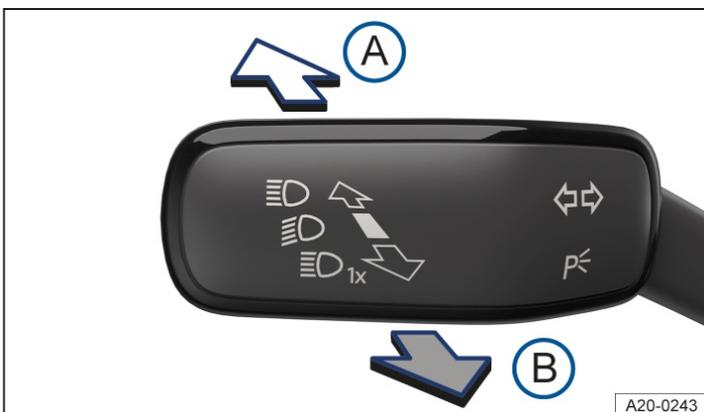

Fig. 1 On the left-hand side of the steering column: turn signal and main beam lever.
2. Push the turn signal and main beam lever forwards from the centre position \rightarrow Fig. 1.
1. Pull the turn signal and main beam lever to the rear from the centre position → *Fig. 1*.
1. Pull the turn signal and main beam lever to the rear from the centre position and hold it → *Fig. 1*.